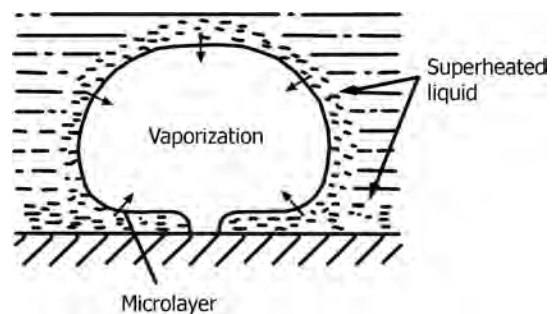

FIGURE 9.14 Vaporization.
- *Vaporization* Illustrated in Figure 9.14. Heat is conducted into the thermal boundary layer and then to the bubble interface, where it is converted to latent heat. Macroevaporation occurs over the top of the bubble while microevaporation occurs underneath the bubble across the thin liquid layer trapped between the bubble and the surface, the latter often referred to as *micro-layer vaporization*. Since bubbles rise much faster than the liquid natural convection currents and contain a large quantity of energy due to the latent heat absorbed by the bubble making this heat transfer mechanism very efficient. The rate of latent heat transport depends on the volumetric flow of vapor away from the surface per unit area.